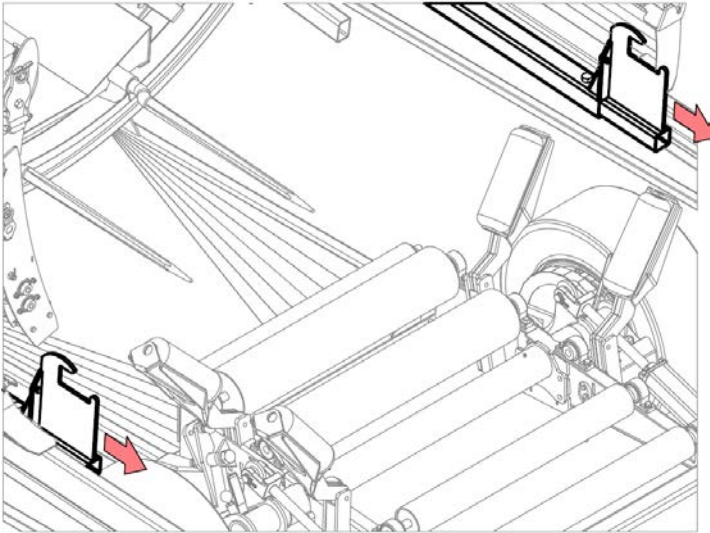

Fig.1
1. Remove standard last bale pushoff hooks from ram tubes. Keep unfastened hardware. See Fig. 1.